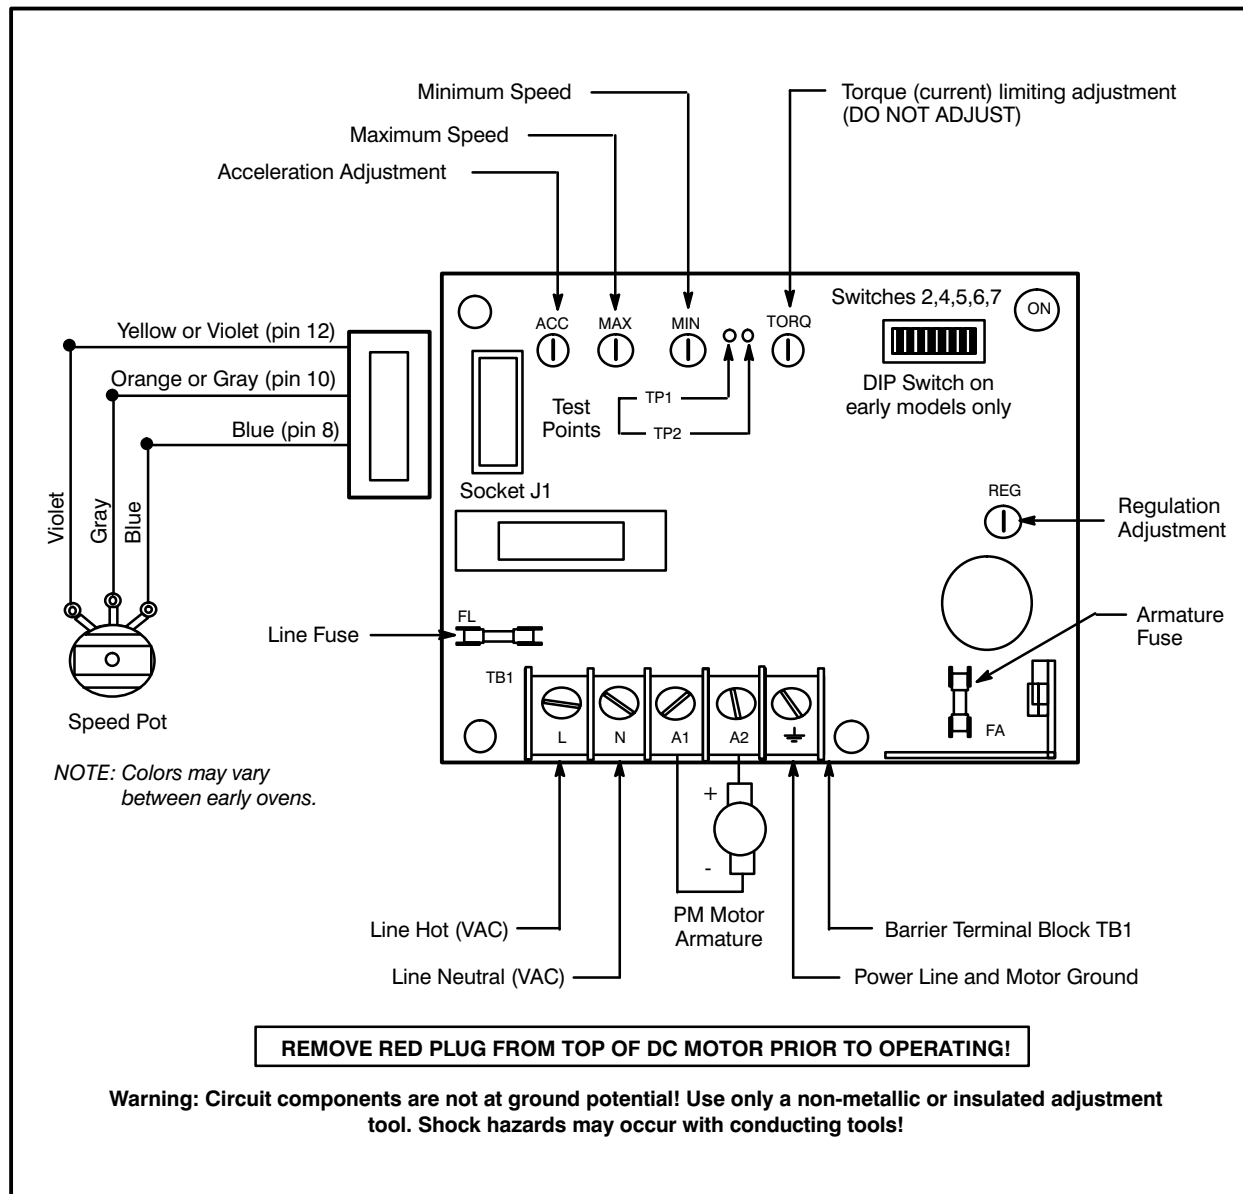

FIGURE 8
1. With the motor connected (make no open circuit voltage readings) measure the voltage at the motor leads (A1 & A2 in FIGURE 8) on the DC control board. If the voltage is not within 3 VDC of the specified voltage continue with step 2.
1. With the motor connected (make no open circuit voltage readings) measure the voltage at the motor leads on the DC control board (A1 & A2 in FIGURE 8). If the voltage is not 26VDC +/- 1 VDC, continue with step 2.